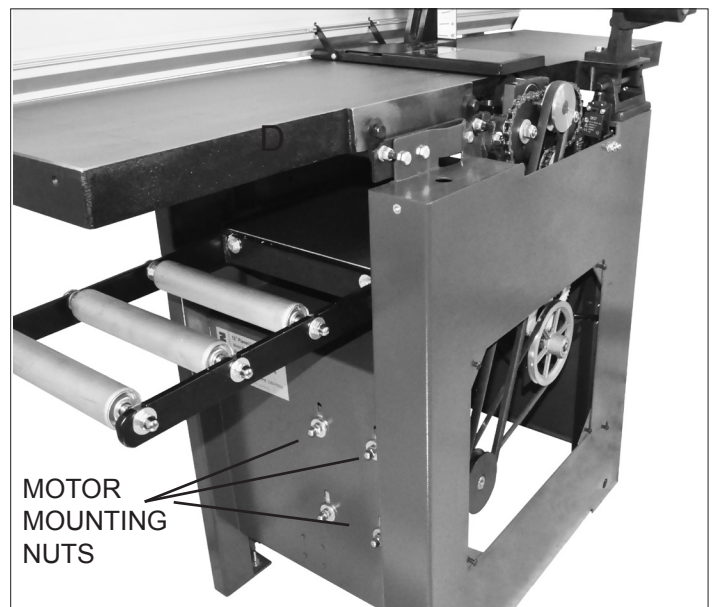

FIG. 32
4. From outside, rear of the machine, loosen the four Nuts (#223, FIG. 32) that secure the motor in place. Lift the motor to slacken the tension on the drive belt, or move it down to increase the belt tension.